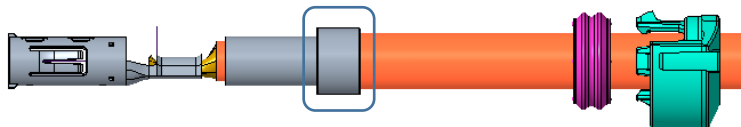
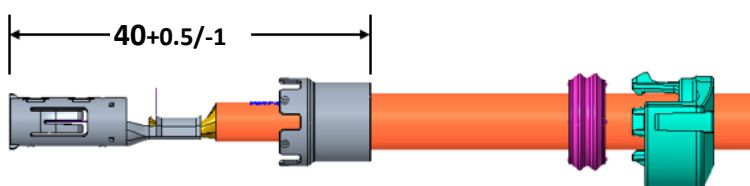

Figure 10: Put the inner ferrule in the final position
Figure 13: Insert the outer ferrule
Push the inner ferrule until the top surface flush with the cutting surface of outer jacket shown in figure 10. 如图10所示，将屏蔽内环推到内环顶面与外绝缘皮的切面平齐。
Insert the outer ferrule and keep the dimension between outer ferrule and terminal shown in figure 10. 如图所示，组装屏蔽外环并确保屏蔽外环与端子的距离尺寸公差满足图13要求。
- Hex crimp dimensions per figure 13 and table 9
- 每个压接尺寸依据图13和表9的六角形